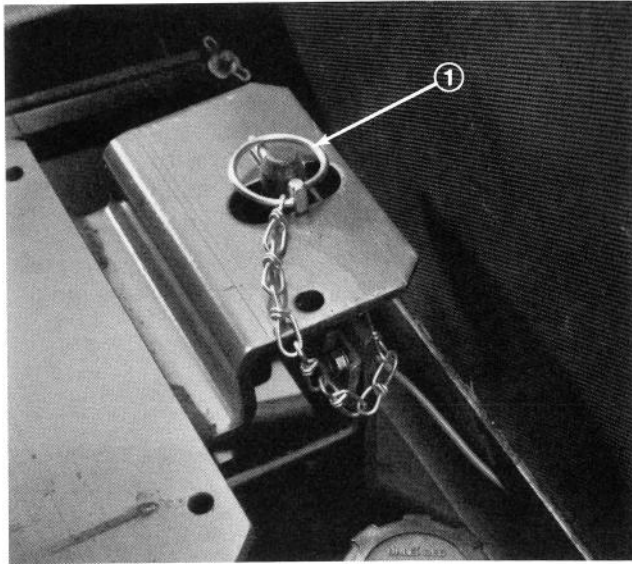

Figure 13
6. Disengage seat support rod and pivot downward. Pivot seat down and push lynch pin through seat latch stud. Flip wire end of pin over latch stud (Fig. 13).